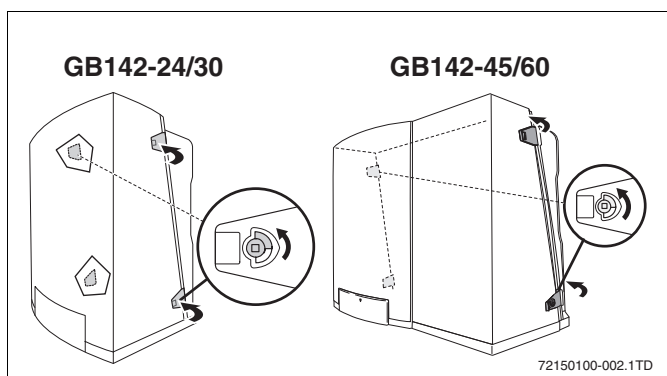

Fig. 2
- ▶ Remove the casing (→ fig. 2).